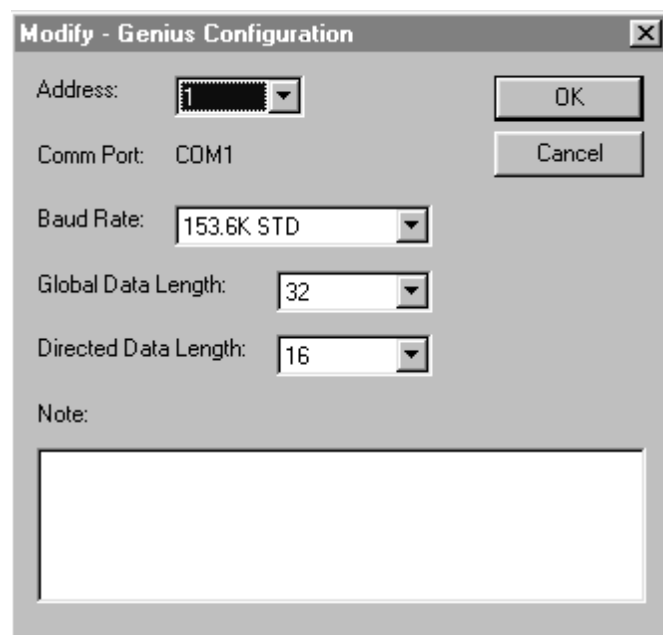

Figure 3.22
20. Select the maximum levels (as shown in Figure 3.22) using pull-down menus. The Global Data Length and Directed Data Length selection in this box is the size of the Genius data map regardless of the number of words configured. Press **OK**. Then press **Save As** to save the configuration.